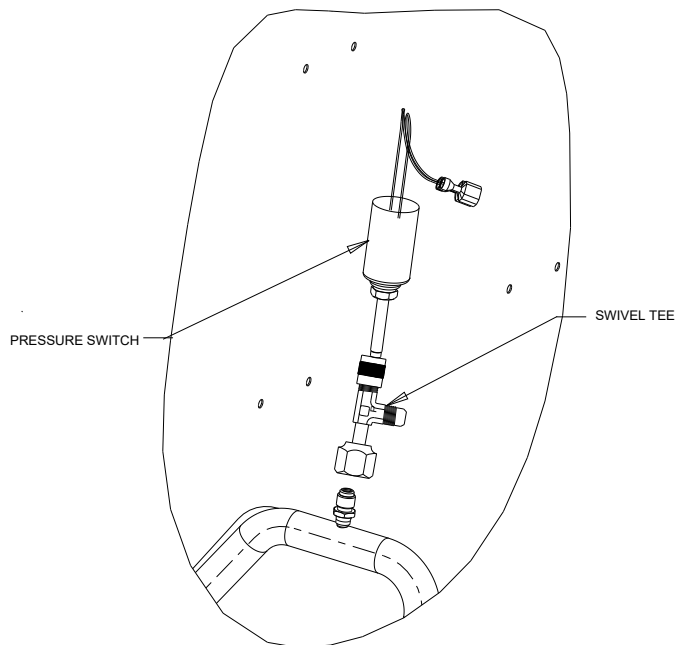

FIGURE 34
7. Screw a Pressure Switch onto the run port of each of the 1/4" Swivel Tees. Torque to 96 ± 5 in-lbs. Use a backup wrench to prevent twisting off the fitting and possible leaks. See Figure 34.